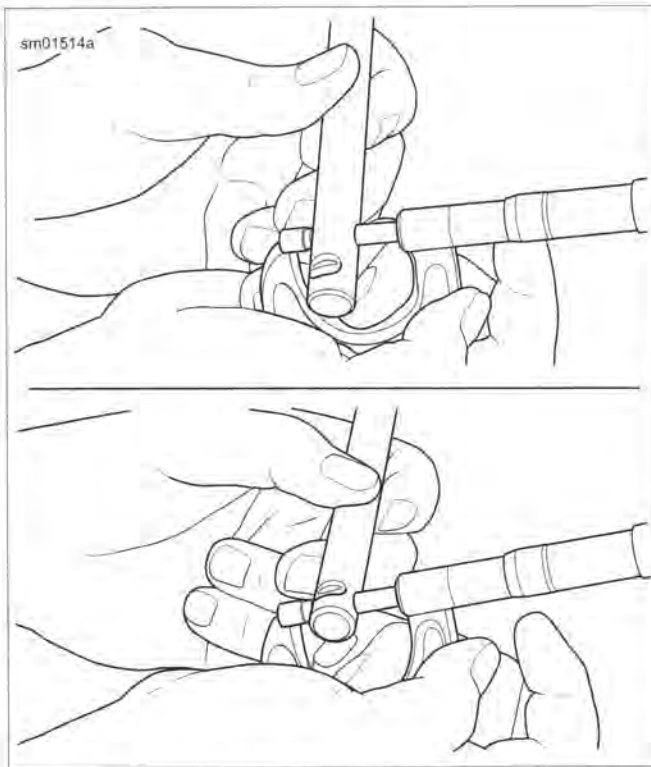

Figure 3-28. Measuring Rocker Arm Shaft Diameter at Bushing Position (top) and Cover Position (bottom)
2. See Figure 3-28. Measure the outside diameter of the rocker arm shaft where it fits in the bore.
- b. See Figure 3-28. Measure the outside diameter of the rocker arm shaft where it rides in the bushing.